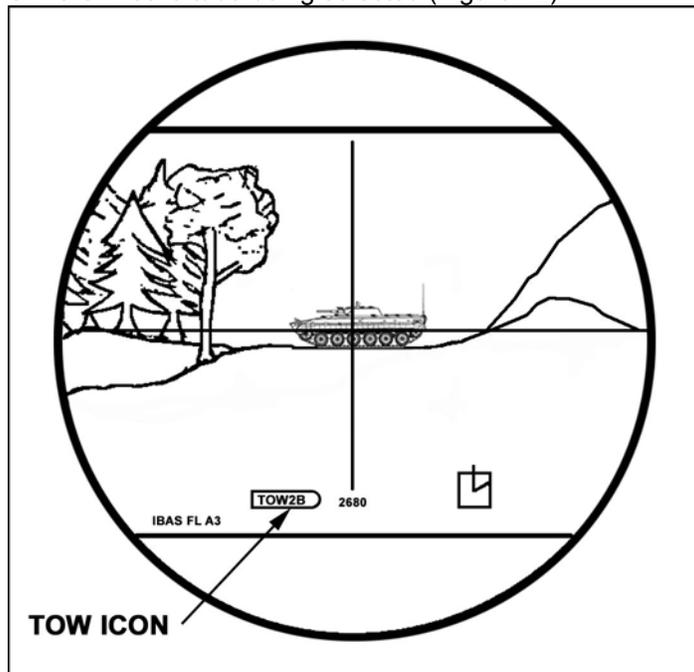

Figure 12. TOW icon.
- (2) If TOW 2A or TOW 2B appears in the weapons selected field of the TAS reticle, a TOW 2 missile is in the missile tube being selected (Figure 12).